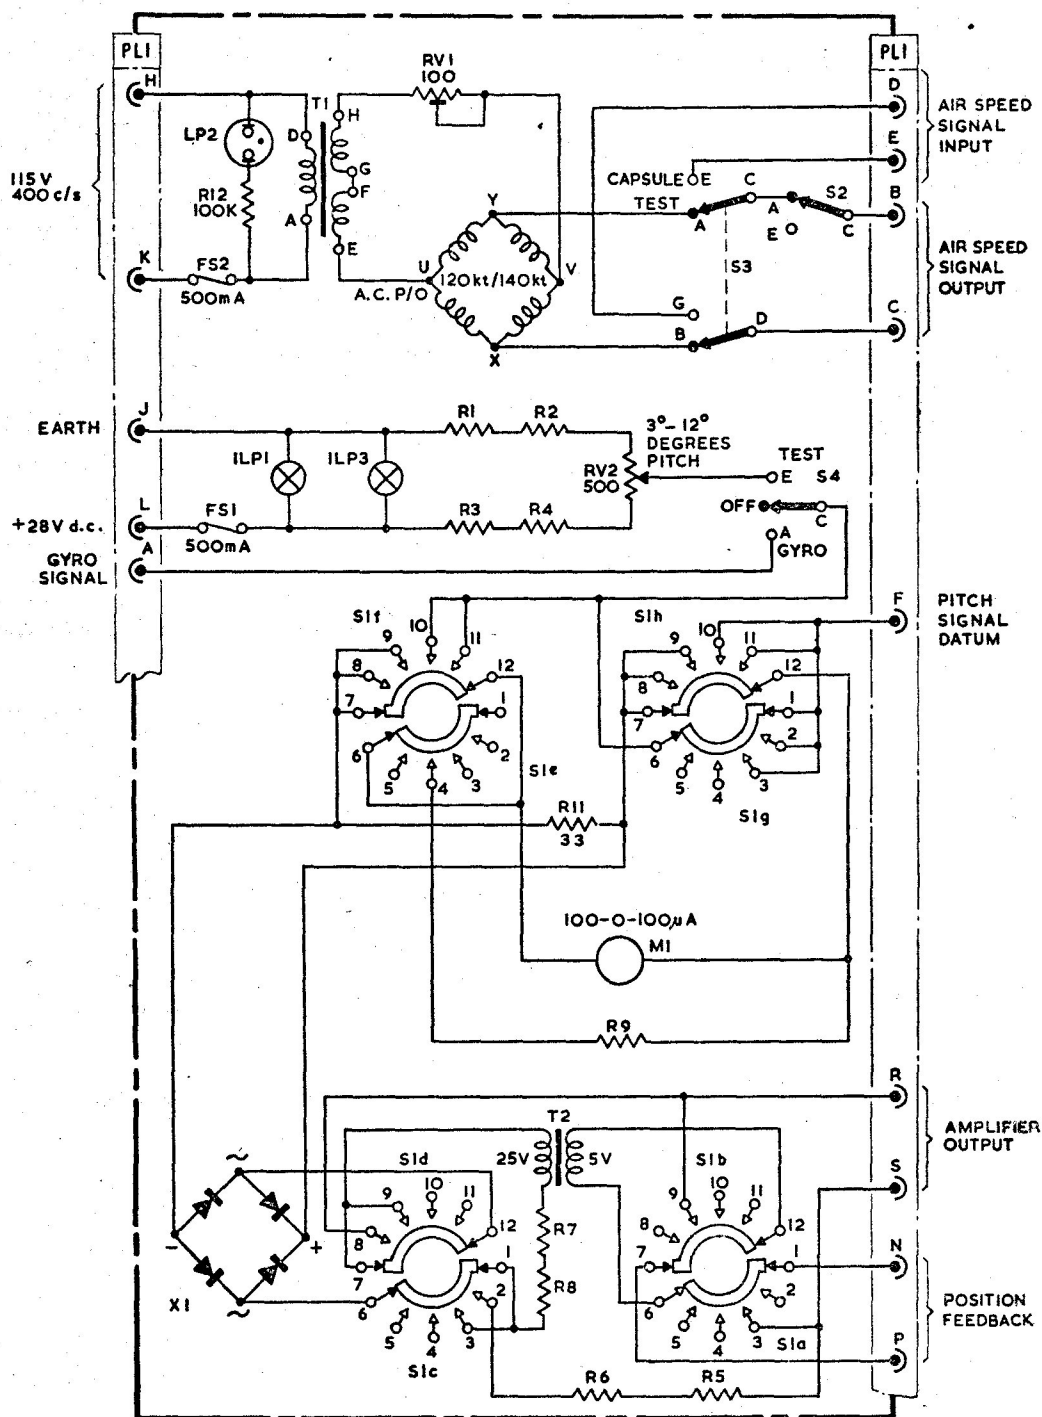

Fig. 4. Circuit diagram
Datum and gearing simulated signal (fig. 4)
9. As shown in fig. 4, with S2 set in the ON position and switch S3 set in the TEST position, the test set air speed pick-off output is applied via pins B and C of PL1 to pins B and C of PL2 of the actuator amplifier and compared electric-
Pitch attitude datum and gearing (fig. 4)